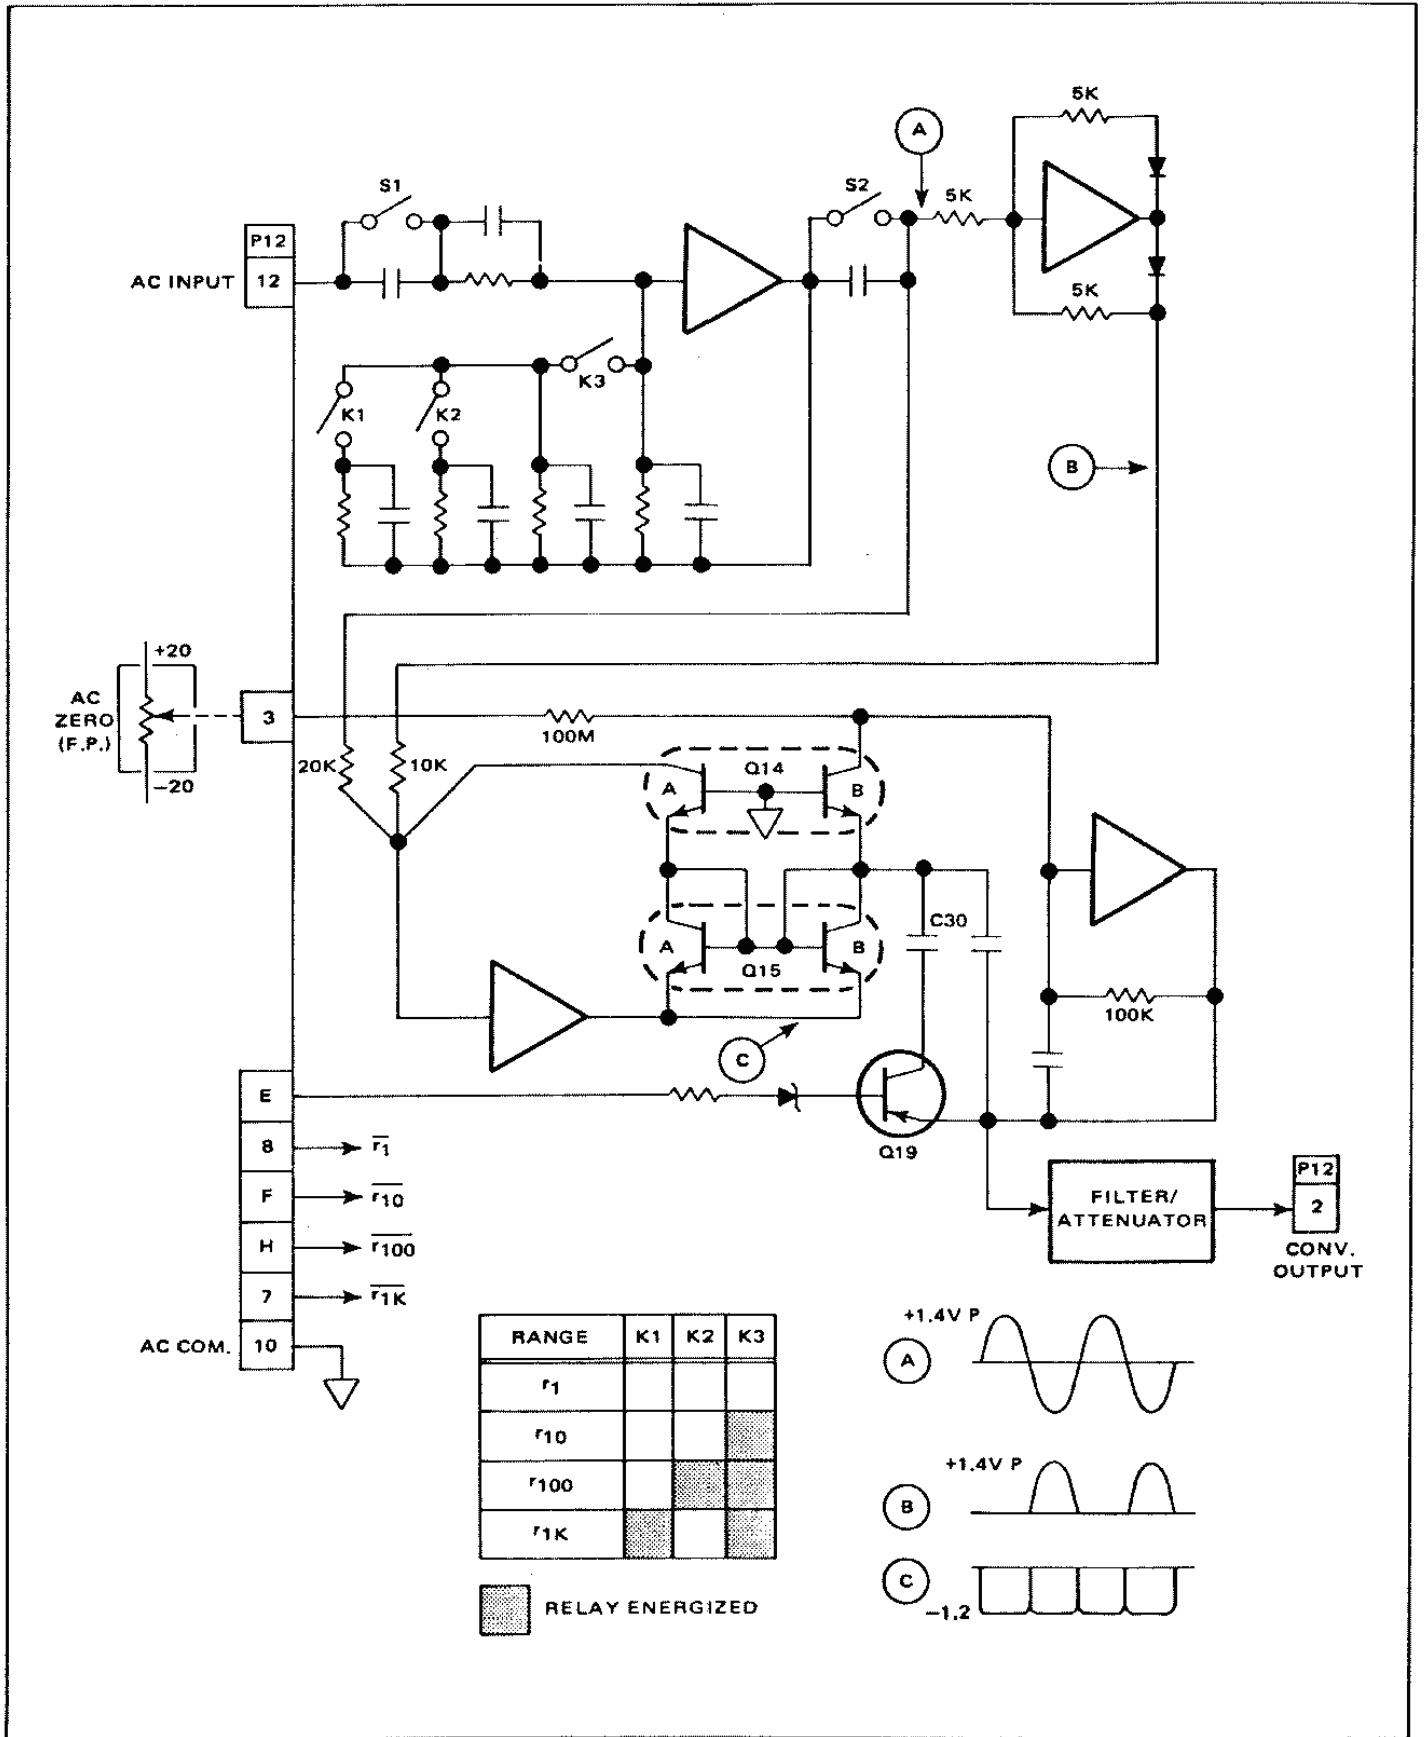

Figure 4.9 - RMS AC Converter
4.25 The circuitry is shown simplified in figure 4.9. The Scaling Amplifier consists of an operational amplifier with a fixed input impedance and four feedback paths. The feedback path for the one volt range is permanently wired into the circuit; the 10, 100, and 1000 volt range feedback paths are connected in parallel to the 1 volt feedback path by relays K1, K2, and K3. The scaling amplifier supplies an accurate 1 volt output on each range selected with full range inputs applied.